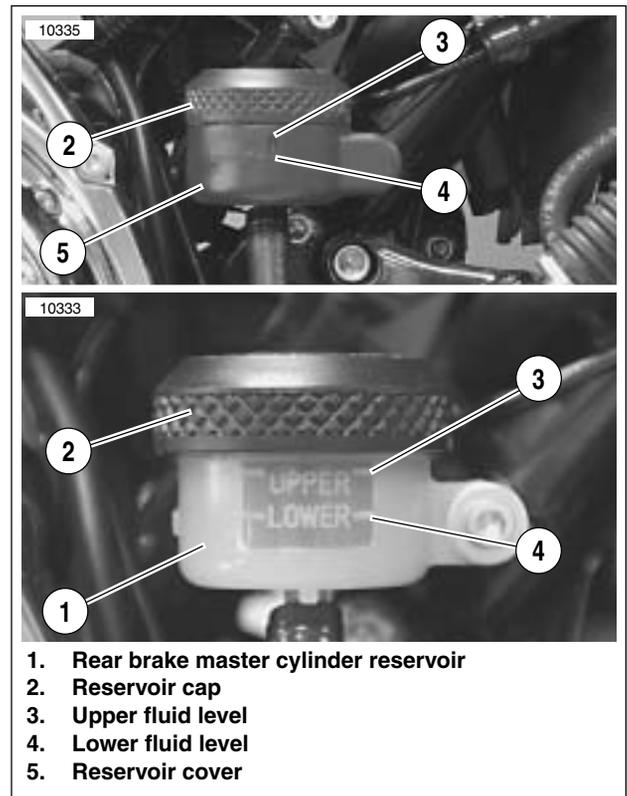
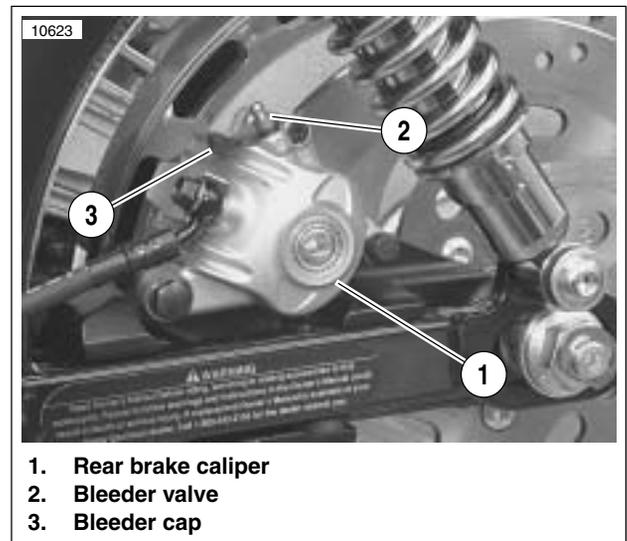

Figure 1-19. Rear Brake Master Cylinder Reservoir
Figure 1-20. Rear Brake Caliper
- See Figure 1-19. Rear brake master cylinder reservoir (1) must be in a level position when filling and checking fluid level.
- Reservoir cover (5) may be removed from rear brake master cylinder reservoir to more easily verify fluid level in reservoir.
1. Position motorcycle upright (not resting on jiffy stand). See Figure 1-19. Unscrew and remove reservoir cap (2).
2. Add Harley-Davidson D.O.T. 5 SILICONE HYDRAULIC BRAKE FLUID to master cylinder reservoir (1) until the fluid reaches the upper fluid level (3).
3. See Figure 1-20. Remove bleeder cap (3). Install end of a length of plastic tubing over caliper bleeder valve (2). Place free end of tube in a clean container.
7. See Figure 1-19. Add Harley-Davidson D.O.T. 5 SILICONE HYDRAULIC BRAKE FLUID to master cylinder reservoir (1) until the fluid reaches the upper fluid level (3).
8. Replace reservoir cap (2). Replace reservoir cover (5) if removed.
1. See Figure 1-19. Remove the rear master cylinder reservoir cap (2).
See Figure 1-19. As the piston is pushed back into the caliper, fluid level may rise higher than the upper fluid level (3) in the reservoir (1). You may have to remove fluid to allow for this.